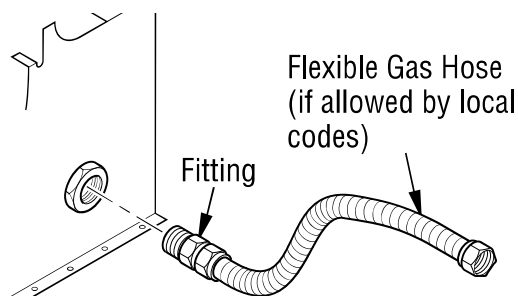

Figure 11 - Attaching Flexible Gas Hose to Heater
1. Connect approved flexible gas hose to gas control fitting in heater (*see Figure 11, Page 13*).